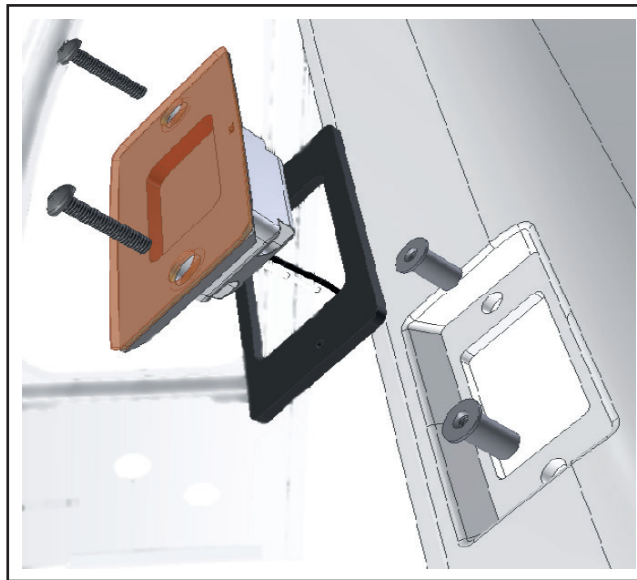

Figure 3 - Removal order
- 1.17. Carefully remove the marker lights. A spatula, a knife or a screw driver might be required to separate the adhesive sealant (Dolchem) (See Figure 3).